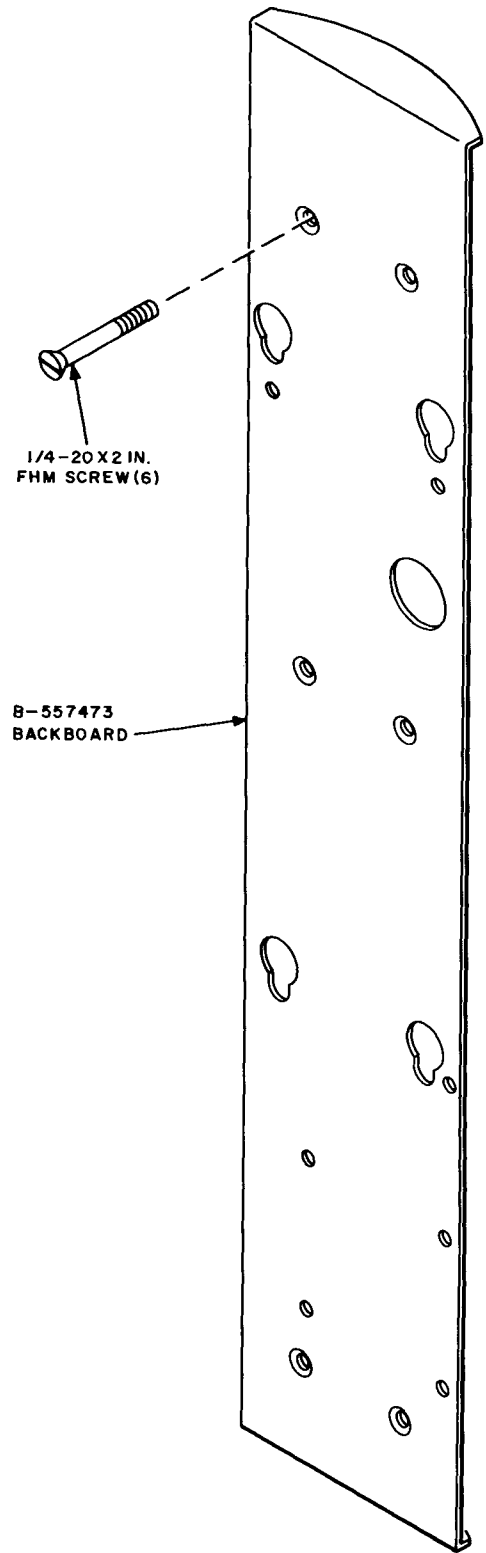

Fig. 5 — KS-19206, List 7 Coin Telephone Installation Kit
6.06 Install KS-19206, List 7 kit in accordance with Fig. 5.